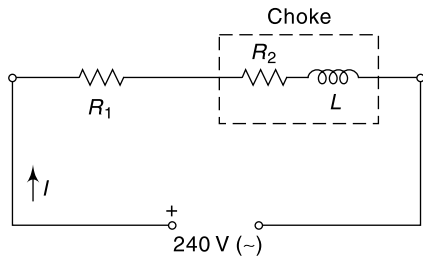

Fig. 5.82 Circuit diagram for Ex. 5.137
5.137 A resistance R_1 is in series with a choke coil having resistance R_2 and inductance L as shown in Fig. 5.82. The circuit current is given by $I = 3 \angle -37^\circ \text{ A}$, while the supply voltage is $V = 240 \angle 0^\circ \text{ volts}$. If the voltage drop across the choke is 171 volts, Find R_1 , R_2 and X_L .